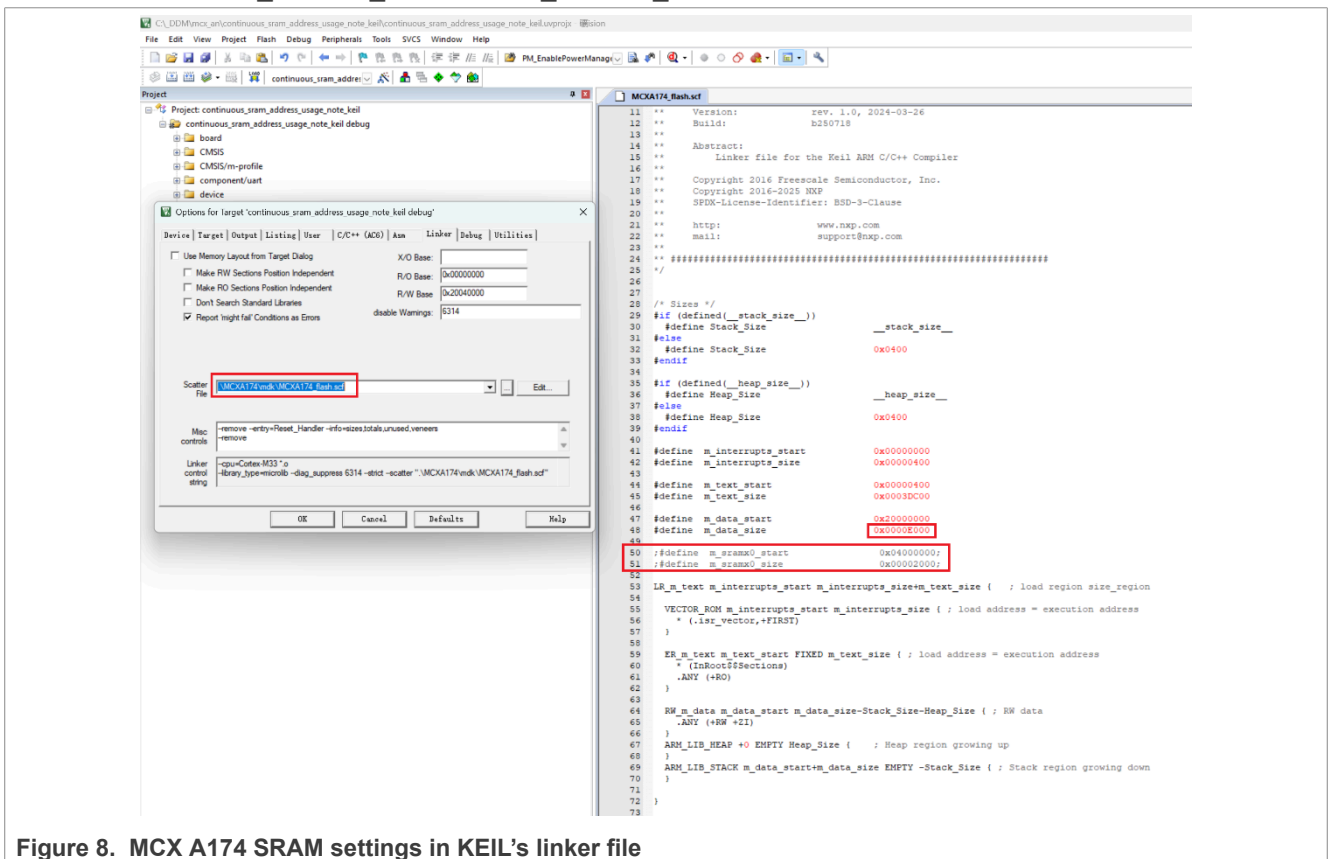

Figure 8. MCX A174 SRAM settings in KEIL's linker file
- For MCX A174, as shown in Figure 8: